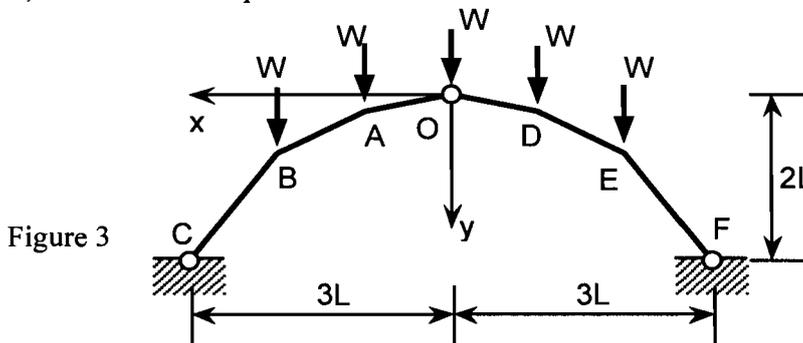

Figure 3
4. Figure 3 shows a symmetrical three-pin arch of given span $6L$ and rise $2L$. In the system of axes shown, points A, B, and C have coordinates $(L, 2\alpha L)$, $(2L, 2\beta L)$, and $(3L, 2L)$ respectively, where α and β are unknown "shape factors". The arch supports a deck which transfers five equal loads W to the arch, as shown. The self-weight of the arch itself can be neglected.